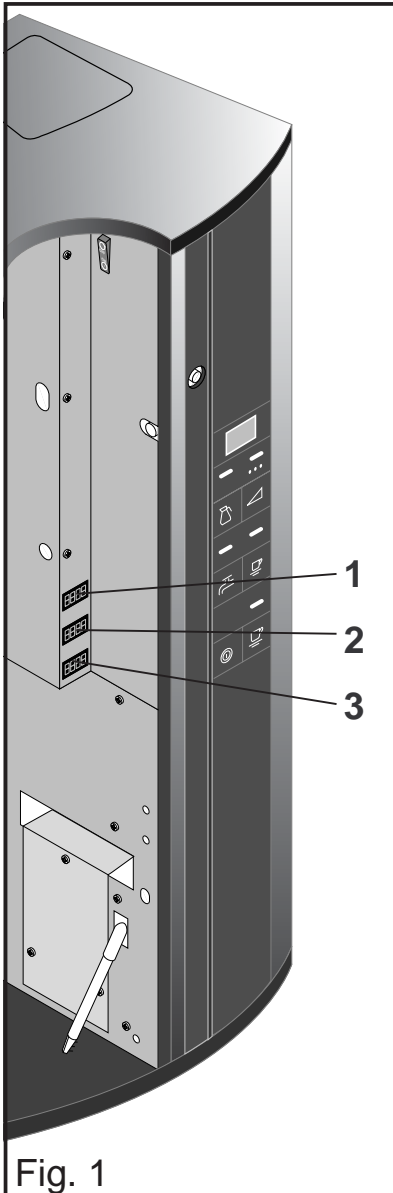

Fig. 1
- Each counter shows the total number of beverages that have been delivered (Fig. 1) e.g.:
- Counter for coffee (1) or total counter (1)
- Counter for mocha (2)
- Counter for hot water (3)